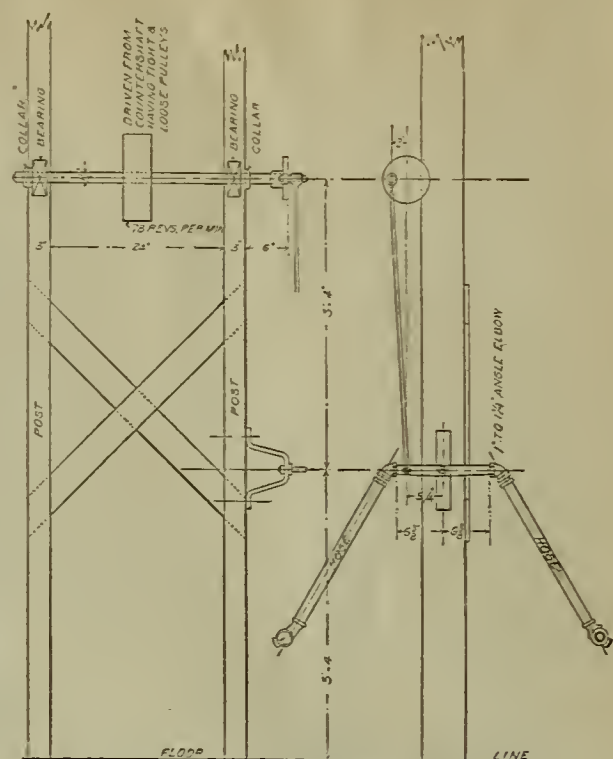

FIG. 3—MACHINE FOR TESTING RUBBER HOSE BY KINKING.
in harmony, when subjected to bending. This is very readily shown when such a hose is put on a kinking machine, such as is illustrated in Fig. 3. After the machine is put in motion, and the hose has been subjected to a slight bending motion at a point near the inside end of the upper fitting, it will be found that at the point bent it becomes so heated in a few minutes that one cannot bear the hand on it. This shows that there is a condition in the structure which is not in harmony when subjected to bending. The rubber readily stretches and accommodates itself to the bent shape while the canvas is stiff and unyielding. This bending under such circumstances causes a change in the original relations of rubber and canvas, and a tendency to pull the rubber from the canvas, which in time cracks the rubber and separates it completely from the canvas.
2. The adoption of a passenger car journal box for use with journals 4 1/4 by 8 inches, with inside dimensions as shown in Fig. 3 herewith. These dimensions admit of the standard 4 1/4 by 8 inch journal bearing and key as used in freight journal boxes. This design, with these inside dimensions, has been in successful use for several years.